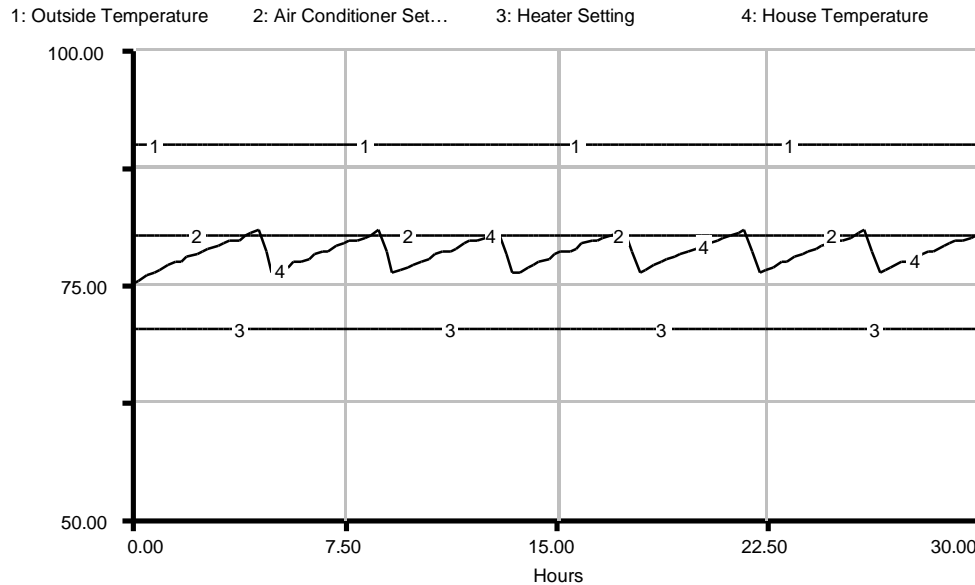

Figure 7: Graph of house temperature with both heating and air conditioning.
6. Now, the system will cycle about the air setting temperature if the outside temperature is higher than the measured house temperature. (See Figure 7) You should notice that the cycling period is longer. This occurs because the outside temperature is closer to the room temperature so heat transfer with the environment is slower. If the outside temperature is between the two settings, the house temperature will converge on it and remain at that temperature.